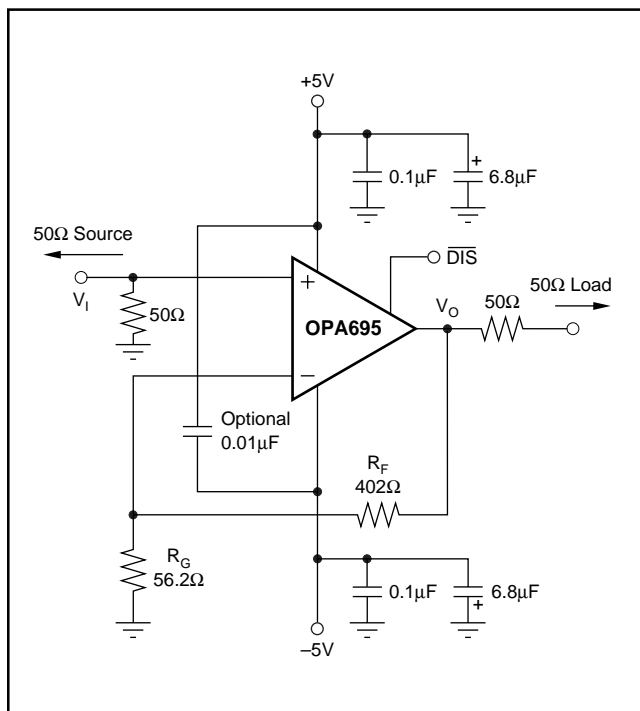
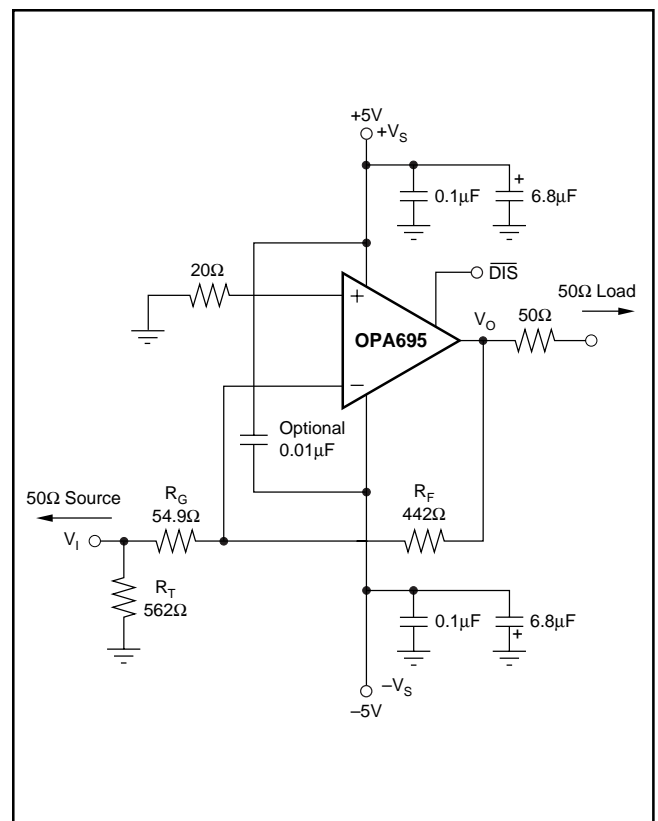
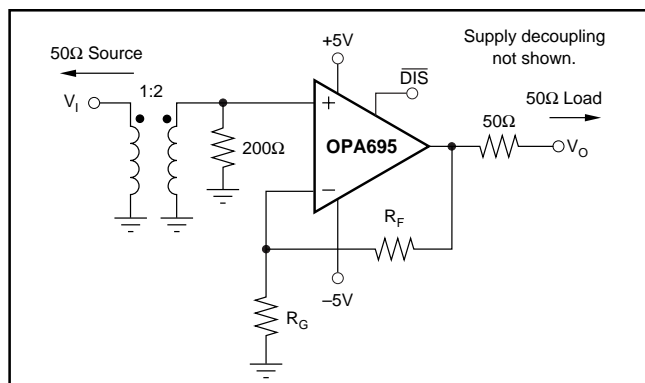

FIGURE 1. DC-Coupled, $G = +8\text{V}/\text{V}$, Bipolar Supply Specifications and Test Circuit.
FIGURE 2. DC-Coupled, $G = -8\text{V}/\text{V}$, Bipolar Supply Specifications and Test Circuit.
FIGURE 5. IF Amplifier with Improved Noise Figure.
Figure 1 shows the DC-coupled, gain of $+8\text{V}/\text{V}$, dual power supply circuit used as the basis of the $\pm 5\text{V}$ Specifications and Typical Characteristic curves. For test purposes, the input impedance is set to 50Ω with a resistor to ground and the output impedance is set to 50Ω with a series output resistor. Voltage swings reported in the specifications are taken directly at the input and output pins while load powers (dBm) are defined at a matched 50Ω load. For the circuit of Figure 1, the total effective load will be $100\Omega \parallel 458\Omega = 82\Omega$. The disable control line ($\overline{\text{DIS}}$) is typically left open to get normal amplifier operation. The disable line must be asserted low to shut off the OPA695. One optional component is included in Figure 1. In addition to the usual power supply decoupling capacitors to ground, a $0.01\mu\text{F}$ capacitor is included between
Figure 2 shows the DC-coupled, gain of $-8\text{V}/\text{V}$, dual power supply circuit used as the basis of the Inverting Typical Characteristic curves. Inverting operation offers several performance benefits. Since there is no common mode signal across the input stage, the slew rate for inverting operation is higher and the distortion performance is slightly improved. An additional input resistor, R_T , is included in Figure 2 to set the input impedance equal to 50Ω . The parallel combination of R_T and R_G set the input impedance. Both the non-inverting and inverting applications of Figures 1 and 2 will benefit from optimizing the feedback resistor (R_F) value for bandwidth (see the discussion in *Setting Resistor Values to Optimize Bandwidth*). The typical design sequence is to select the R_F value for best bandwidth, set R_G for the gain, then set R_T for the desired input impedance. As the gain increases for the inverting configuration, a point will be reached where R_G will equal 50Ω , where R_T is removed and the input match is set by R_G only. With R_G fixed to achieve an input match to 50Ω , R_F is simply increased, to increase gain. This will, however, quickly reduce the achievable bandwidth, as shown by the inverting gain of -16 frequency response in the Typical Characteristic curves. For gains $> 10\text{V}/\text{V}$ (14dB at the matched load), noninverting operation is recommended to maintain broader bandwidth.
The ultra-high, full-power bandwidth and 3rd-order intercept of the OPA695 may be used to good advantage in IF amplifier applications. Additional benefits to using a wideband op amp such as the OPA695 include extremely good (and independent) I/O impedance matching as well as very high reverse isolation. A designer more accustomed to using fixed-gain RF amplifiers will get almost perfect gain accuracy, much higher I/O return loss, and 3rd-order intercept points exceeding 30dBm (up to 110MHz) using only a 13mA supply current for the OPA695. Using the considerable design freedom achieved by adjusting the external resistors, the OPA695 can replace a wide range of fixed-gain RF amplifiers with a single part. To understand (in RF amplifier terms) how to take advantage of this, consider first the 4-S parameters (this will be done using the example circuits of Figures 1 and 2 on $\pm 5V$ supplies, but similar results can be obtained on a single +5V to +12V supply).
Input return loss is a measure of how nearly (over frequency) the input impedance matches the source impedance. This is relatively independent of gain setting for both the noninverting and inverting configurations. The Typical Characteristic curves show the magnitude of S_{11} for the circuits of Figures 1 and 2 through 1GHz (noninverting gain of +8 and inverting gain of -8 operation, respectively). Noninverting operation does offer much better matching to higher frequencies, with the only deviation due to the parasitic input capacitance of the input pin. The noninverting input match is simply set by the resistor to ground on the noninverting input, since the amplifier itself shows a very high input impedance. Inverting operation is also very good, but rises more quickly due to loop gain roll-off effects appearing at the inverting node. The inverting mode input match is set by the parallel combination of R_G and R_T in Figure 2, since the inverting amplifier node may be considered a virtual ground. A good, fixed-gain, RF amplifier would have an input, Voltage Standing Wave Ratio (VSWR) < 1.2:1. This corresponds to an S_{11} of -21dB. The OPA695 exceeds this performance through 100MHz for the inverting mode of operation, and through 400MHz for the noninverting mode.
Signal gains are most often referred to as V/V in op amp data sheets. This is the voltage gain from input to output and is set by external resistor ratios. Since the output impedance is set by a physical series resistor, the voltage gain to the matched load is cut in 1/2 by this resistor divider. The log gain to the matched load for the noninverting circuit of Figure 1 is: (1)
The log gain to the matched load for the inverting circuit of Figure 2 is: (2)
The specific resistor values used in Figures 1 and 2 give both a maximally flat bandwidth and a 12dB gain to the matched load. The design tables at the end of this section summarize the required resistor values over a range of desired gains for the circuits of Figures 1 and 2.
curves. The inverting configuration holds almost constant bandwidth (with correctly selected external resistor values) until R_G reduces to equal 50Ω , and remains at that value to satisfy the input impedance matching requirement, with further increases in gain achieved by increasing R_F in Figure 2. The bandwidth then decreases rapidly as shown by the gain of $-16V/V$ plot in the Typical Characteristic curves.
Reverse isolation is a measure of how much power injected into the output pin makes it back to the source. This is rarely specified for an op amp because it is so good. Op amps are very nearly uni-directional signal devices. Below 300MHz, the noninverting configuration of Figure 1 gives much better isolation than the inverting of Figure 2. Both are well below 40dB isolation through 350MHz.
Op amp noise figure equations include at least six terms (see the Noise Performance section), due to the external resistors. As a point of reference, the circuit of Figure 1 has an input noise figure of 14dB while the inverting configuration of Figure 2 has an input noise figure of 11dB. At higher gains, it is typical for the inverting noise figure to be slightly better than for an equivalent gain, noninverting configuration. One easy way to improve the noise figure for the noninverting configuration of the OPA695 is to include a step-up, 1:2 turns ratio transformer at the input. This configuration is shown in Figure 5.
TABLE I. Noninverting Wideband Op Amp (Figure 1).
TABLE II. Noninverting with a 1:2 Input Step-Up Transformer (Figure 5).